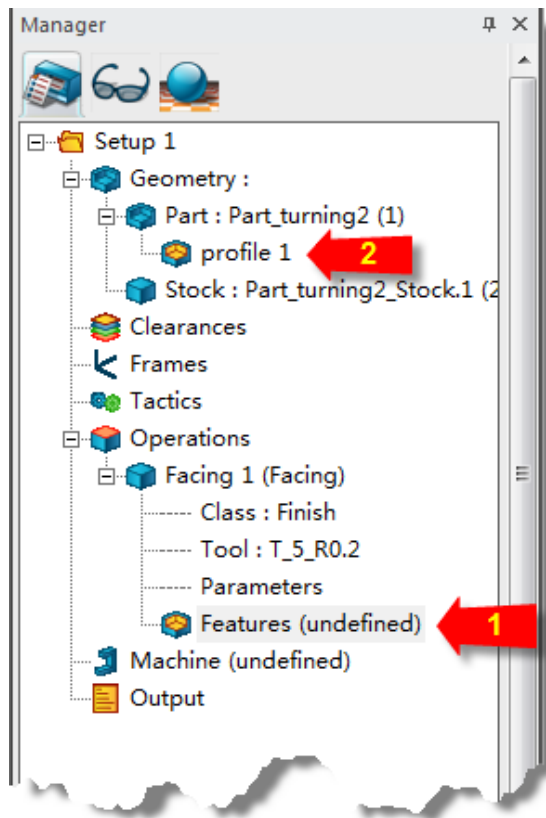

Figure 12: Choosing Features and Profiles
Add the profile feature to the operation, as shown in figure 12. Follow these steps: (1) under **Operations | Facing**, select **Features**, and then (2) choose the **Profile** feature.